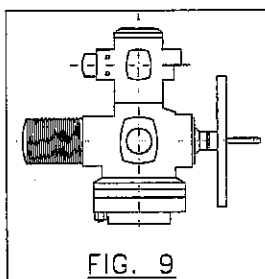

FIG. 9
- *Figure 9* ► it represents a electric actuator in operation.